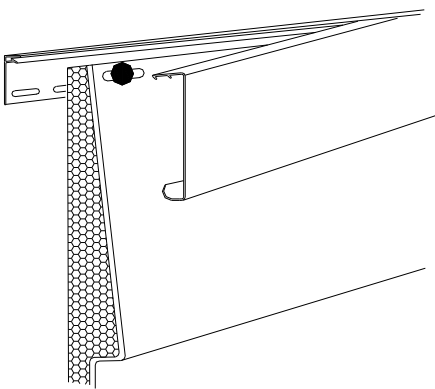

Figure 9.
- **Back Plate and Finish Board/Crown Molding.** This is the recommended installation for finishing a side wall. This will provide a secure and attractive installation. First, install back plate at the top of the wall nailing loosely approximately every 8" to 10". Measure the top course of siding leaving at least $\frac{1}{4}$ " to the back plate. Using a nail slot punch, punch slots every 16". Make sure the slots are approximately 1- $\frac{3}{8}$ " in length (You may need to double slot punch them). Install the panel. Snap the finish board (or Crown Molding) into the back plate Fig. 9). To seam the finish board, cut 1- $\frac{1}{4}$ " off the snap leg of the overlapping piece. Overlap 1".